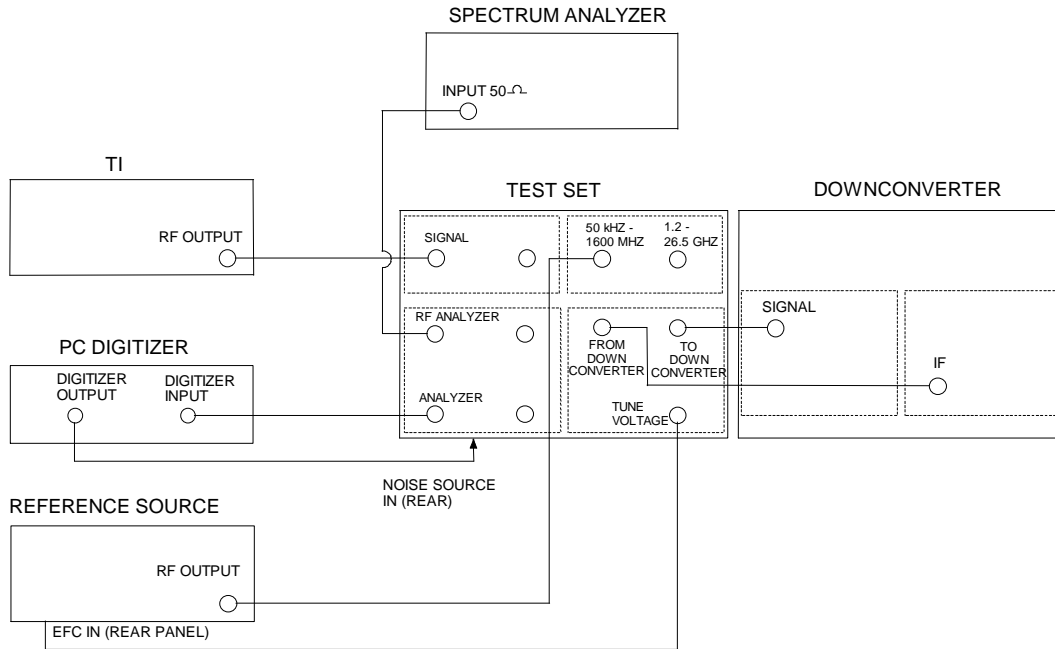

Figure 4.
4.5.13 Connect equipment as shown in Figure 4.